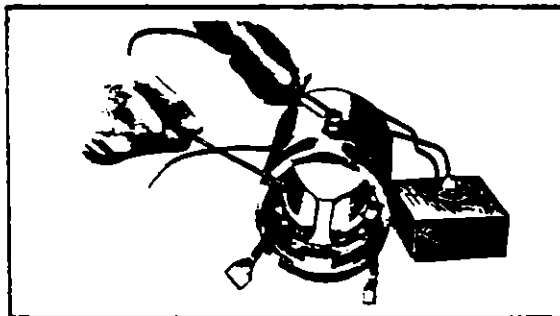

FIGURE 9-29d. TESTING MOTOR FIELDS FOR GROUNDS
- a. Check the field coils for grounds (Refer to Figure 9-29d) by placing one test probe the frame and the other on the starter terminal. Be sure the brushes are not accidentally touching the frame. If the lamp lights, the fields are grounded. Repair or replace.